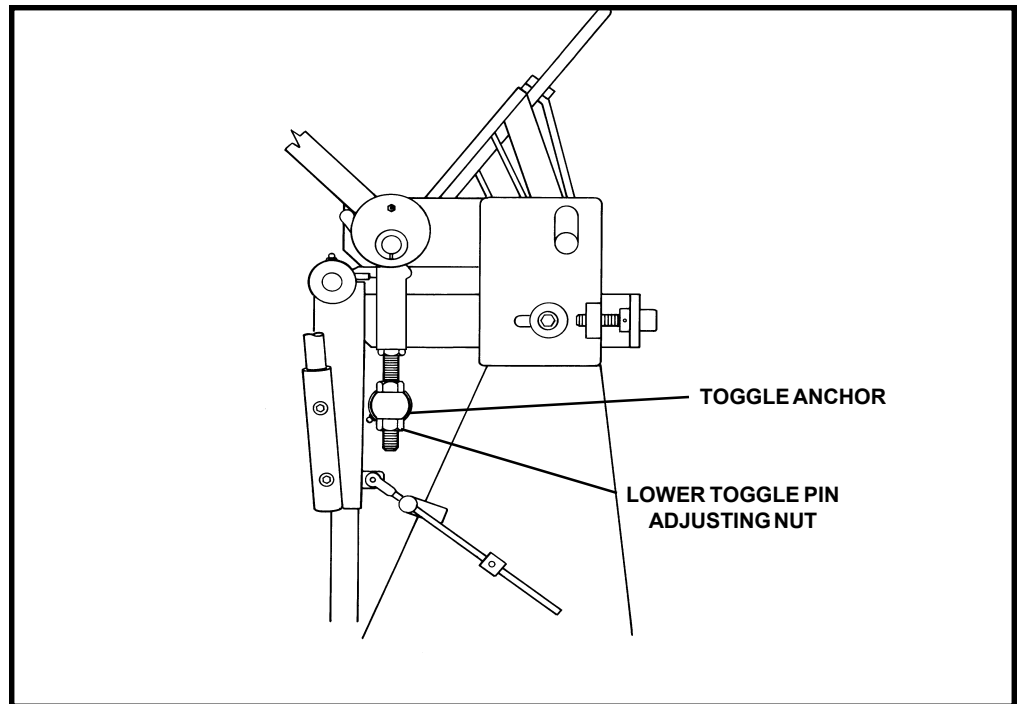

Figure 10. Upper Beam Clamp Adjusting Components.
It also requires reducing clamping pressure to allow for multiple thicknesses of material. Reduce clamping pressure by slackening the lower toggle pin adjusting nut and tightening the upper toggle pin adjusting nut (See Figure 10).
2. Lower the upper beam onto the bed. Loosen lower toggle pin adjusting nut until there is 1/4-in. of space between bottom of the toggle anchor and the lower toggle pin adjusting nut (see Figure 10).